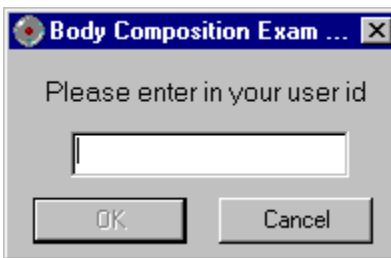

Figure 6-18. Quality control log-on
- When QC is selected from the Utilities menu, the User ID entry box will be displayed. See Figure 6-18.